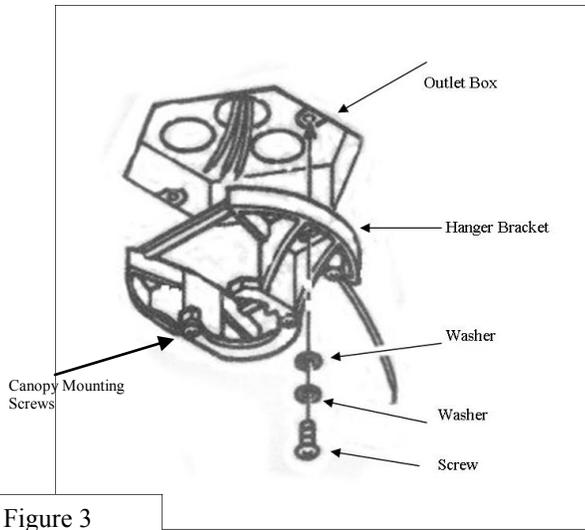

Figure 3
- Loosen the 2 small canopy mounting screws on the downside face of the hanger bracket. Back them out about halfway, this will allow for easier installation of the ceiling canopy later. (figure 3)
- Install the hanger bracket on the electrical junction box in the ceiling using 2 machine screws, 2 washers and 2 lock washers. (figure 3) The mounting bracket has slotted holes to enable it to move sideways for a proper alignment. Make sure the mounting bracket is centered over the electrical junction box and that it is securely attached. (figure 3)